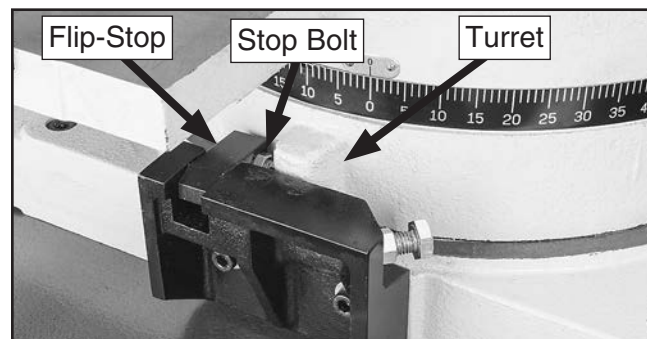

Figure 91. Flip-stop engaged.
4. While standing by motor, rotate headstock to right approximately 5°, rotate flip-stop inward to engage it (see **Figure 91**), then rotate headstock to left until turret just contacts stop bolt.